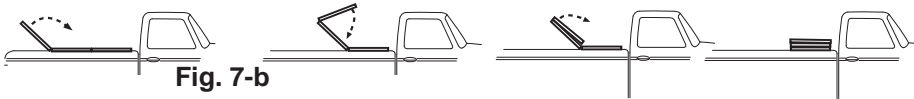

Fig. 7-b
1. Unlatch rear clamps and place in stowed position. See Fig 7-a.
2. Fold cover forward. See Fig. 7-b.
3. Unsnap the retaining strap from the front bow and insert the male end into the female end of the front retention buckle. See Fig. 7-c